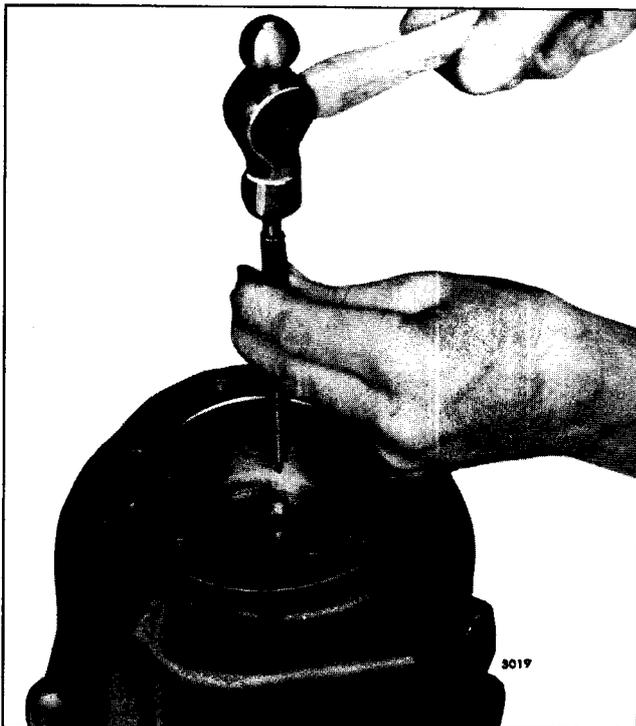

Fig. 38 - Removing Roll Pin from Sun Gear Dowel Pin (1.5:1 Ratio)
- b. Place a 1/8" long shank punch in the drilled hole in the bearing bore of the gear housing as shown in Fig. 38 and drive the roll pin out of the sun gear dowel pin and gear housing.